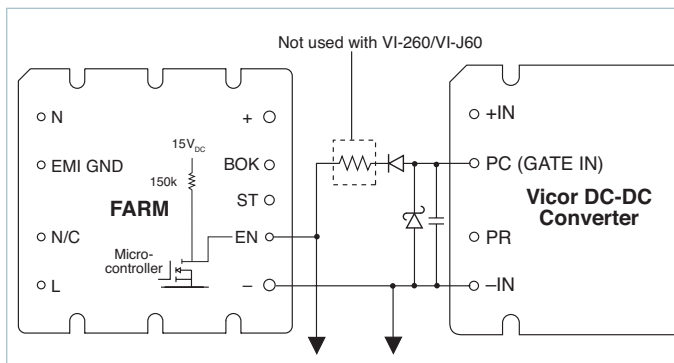

Figure 10 — Enable (EN) function
**Enable (EN) Pin:** (See Figure 10) The Enable pin must be connected to the PC or Gate-In pin of all converter modules to disable the converters during power up. Otherwise, the converters would attempt to start while the hold-up capacitors were being charged through an unbypassed current limiting thermistor, preventing the bus voltage from reaching the thermistor bypass threshold, thus disabling the power supply. The Enable output (the drain of an N channel MOSFET) is internally pulled up to 15V through a 150kΩ resistor.